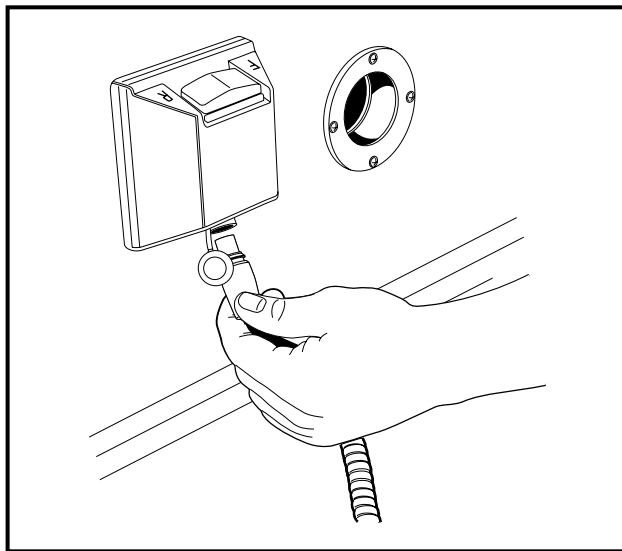

Figure 3 IQDM to Vehicle Connection
4. Align the keyed portion of the plug with the IQDM jack and connect the plug to the jack (**Figure 3**).